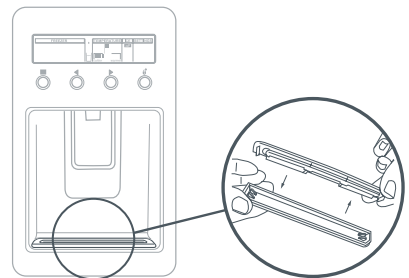

Fig.26 Drip Tray cleaning
- To clean, take the tray out of the dispenser panel and pull the two halves of the tray apart (see Fig.26).